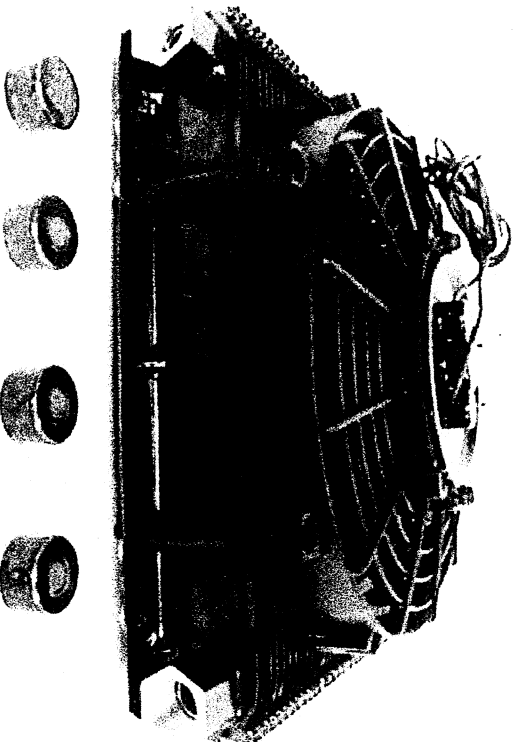

Fig 1
3. Use the four (4) urethane vibration dampers supplied when mounting the unit (See Fig 1).